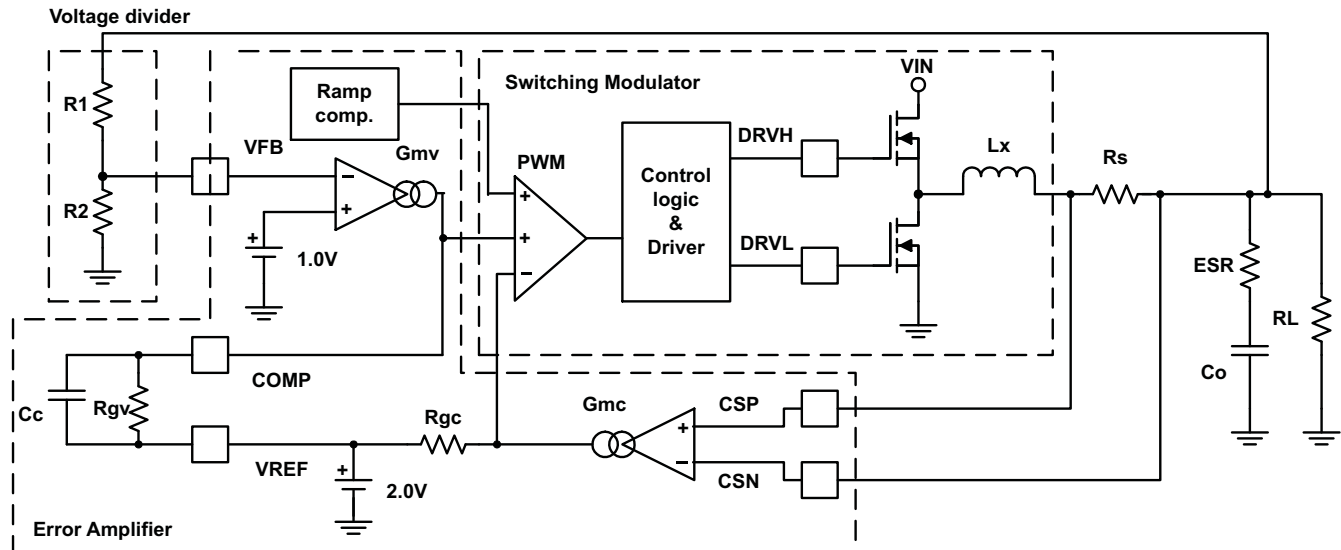

Figure 42. Simplified Current Mode Functional Blocks
A buck converter using TPS51221 consists of linear circuits and a switching modulator. Figure 42 shows basic scheme.
1. Determine output voltage dividing resistors (R1 and R2: shown in Figure 42) using the next equation